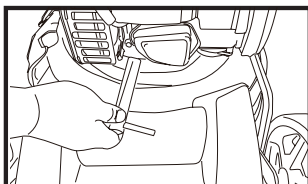

Fig. 15
- Use the spark plug socket wrench (not supplied) to remove the spark plug (Fig. 15).